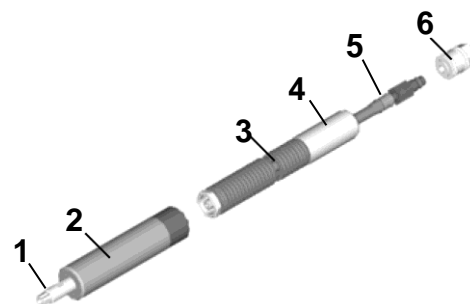

Fig. 1: Pneumatic grinding spindle R
- Only clamp the pneumatic grinding spindle / robot tooling at the cylindrical clamping range (see Description of -machine chapter, item 2 in Fig. 1:)!